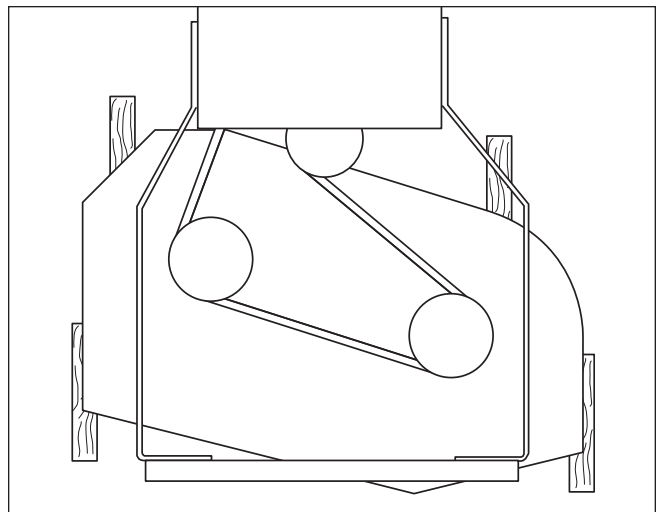

Figure 14. 2 x 4 Placement
3. Place 2 x 4 blocks under the outside edges of the mower deck with the 3-1/2" sides being vertical. Place a 1/8" (3 mm) thick spacer on top of the rear 2 x 4 blocks. (See Figure 14)
3. Place 2 x 4 blocks under the outside edges of the mower deck with the 1-1/2" sides being vertical. Place a 1/8" (3 mm) thick spacer on top of the rear 2 x 4 blocks. (See Figure 14).